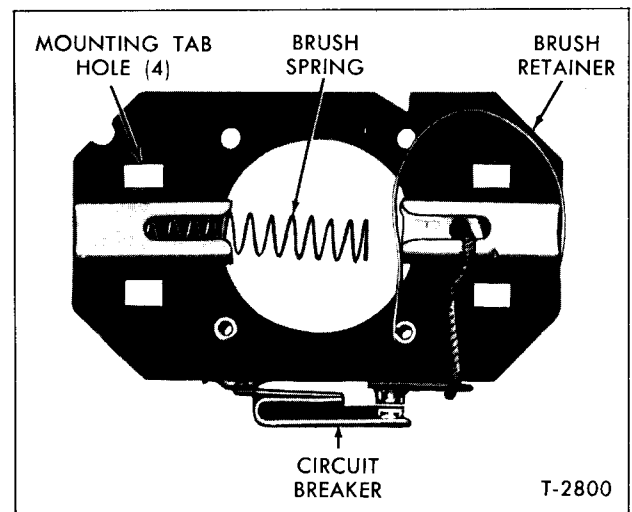

Figure 21—Brush Holder Plate
5. Position partially assembled brush holder (fig. 21) over armature shaft far enough to allow reassembly of brush, attached to field lead, and spring in holder.
NOTE: Brush retainer may be used (fig. 21) to retain brush and spring in position in holder while installing assembly over armature commutator.